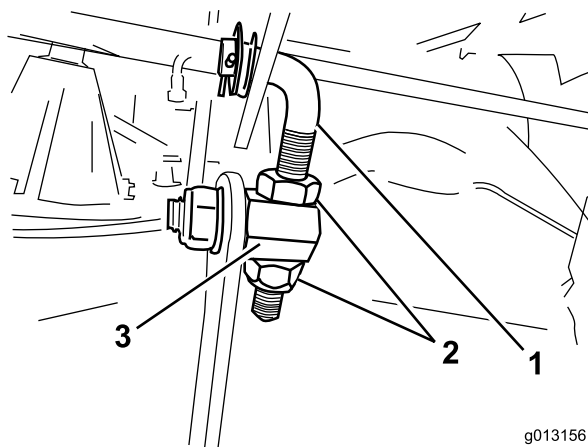
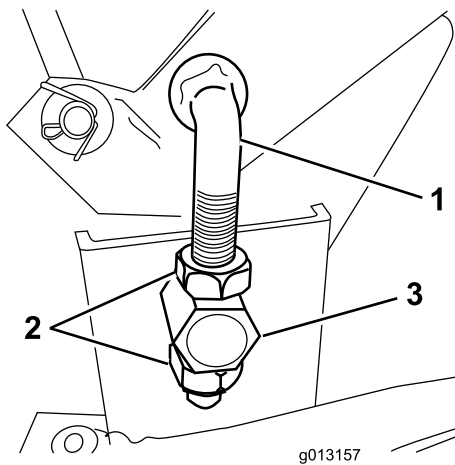

Figure 44
Figure 45
- Loosen the nuts on the front and rear adjustable links (located on the right side of the mower) so that the links are free to move through the trunnions (Figure 44 and Figure 45).